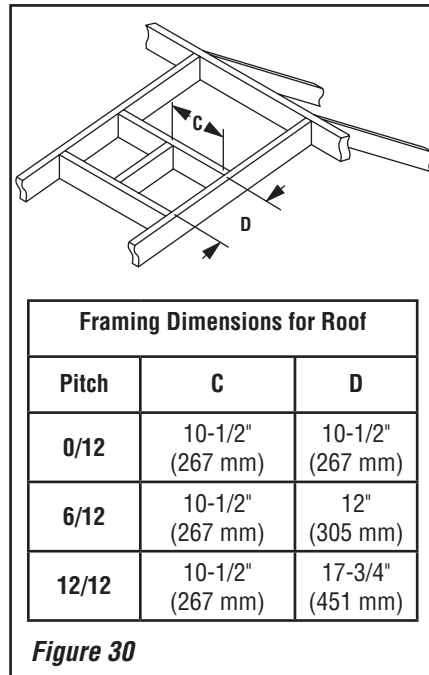

Figure 30
H. Frame roof opening - Identify location for vent at the roof. Cut and/or frame opening per Roof Framing Chart and **Figure 30**.